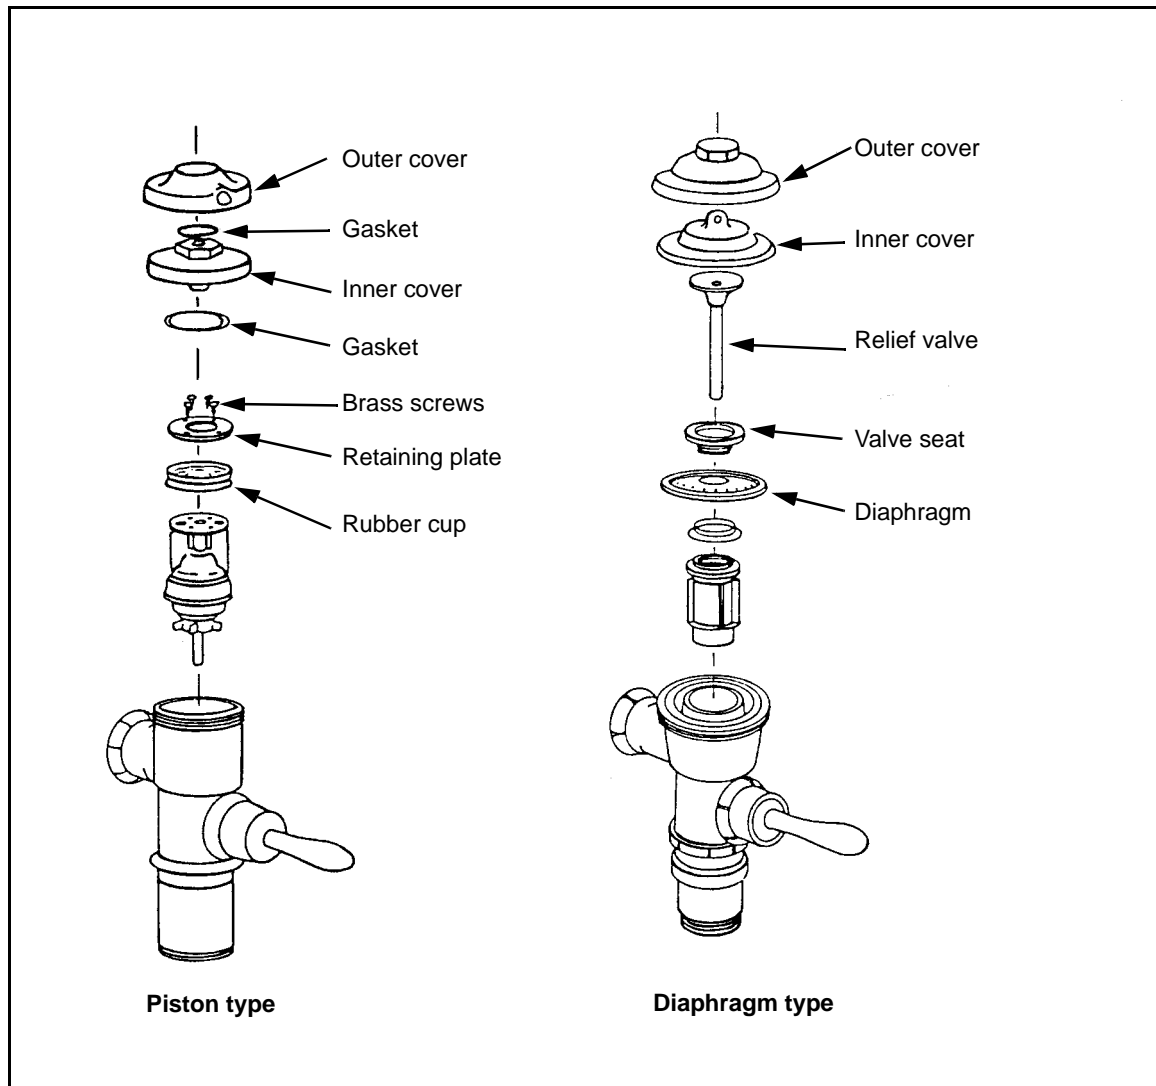

Figure 4-8. Flushometer Repairs
- 4-19. When the valve is not flushing or will not stop flushing, repair the flushometer (*Figure 4-8*). If the flushometer is a—